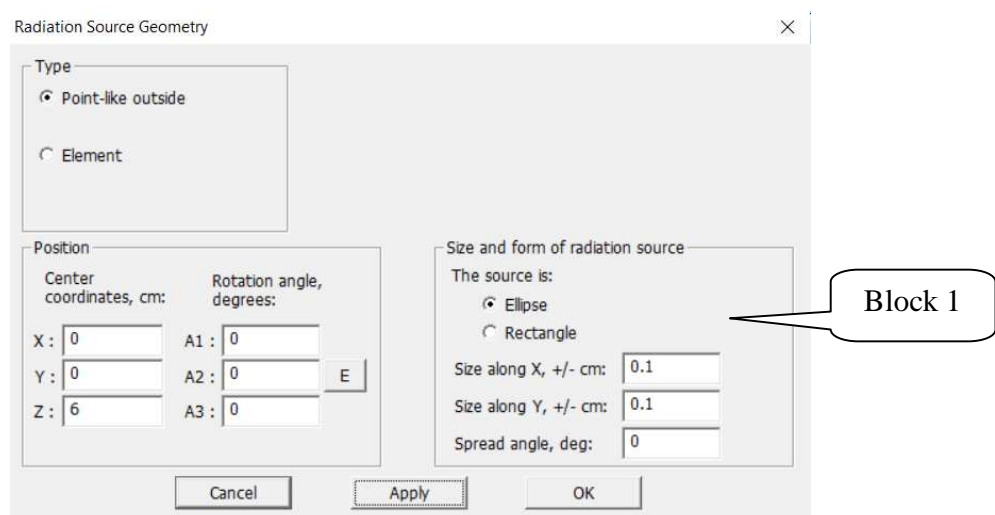

Figure 26.1. Window **Radiation source geometry** for **Point-like outside** type
The menu item **Options->Radiation source geometry** opens the dialog box with the same name, in which you can set the position and geometric properties of the radiation source (see fig.26.1).
- **Point-like outside** – The shape of the source is a plane whose geometric parameters are specified in the parameters group **Shape and size of the source** (Figure 26.1, block 1). The coordinates of the source must be outside of any element;